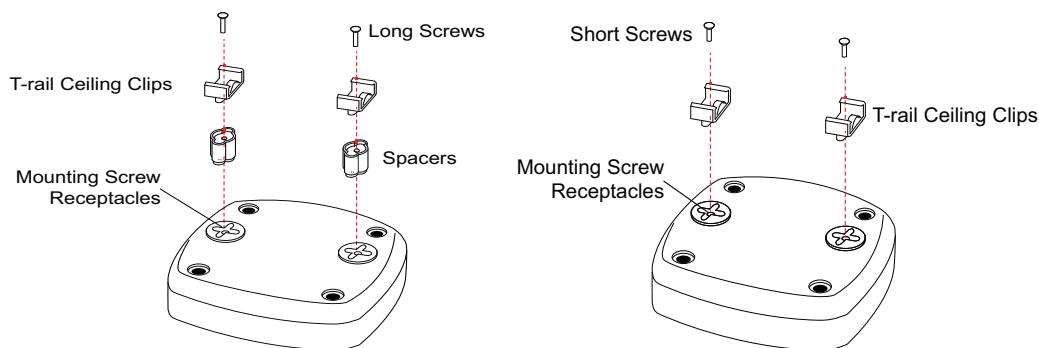

Figure 3. Attach the Ceiling Clips to the LoRaWAN Gateway
2. Attach the appropriate size ceiling clips to the bottom cover of the LoRaWAN gateway using the provided short screws as shown in Figure 3: